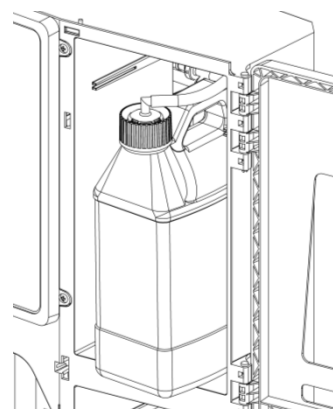

Figure 4
8. Position chemical container into each compartment in desired position and connect SafeLink cap or install tubing w foot valve and ceramic weight into open container (*Figure 4*)